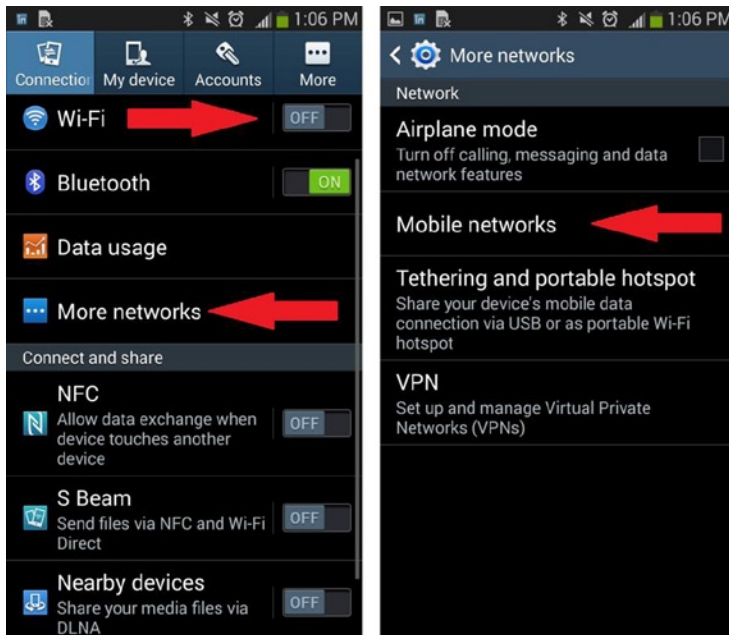

Figure 12-14. Disabling the WiFi and selecting mobile networks
2. Disable the WiFi and select More Networks. Then click on Mobile Networks, as shown in Figure 12-14.